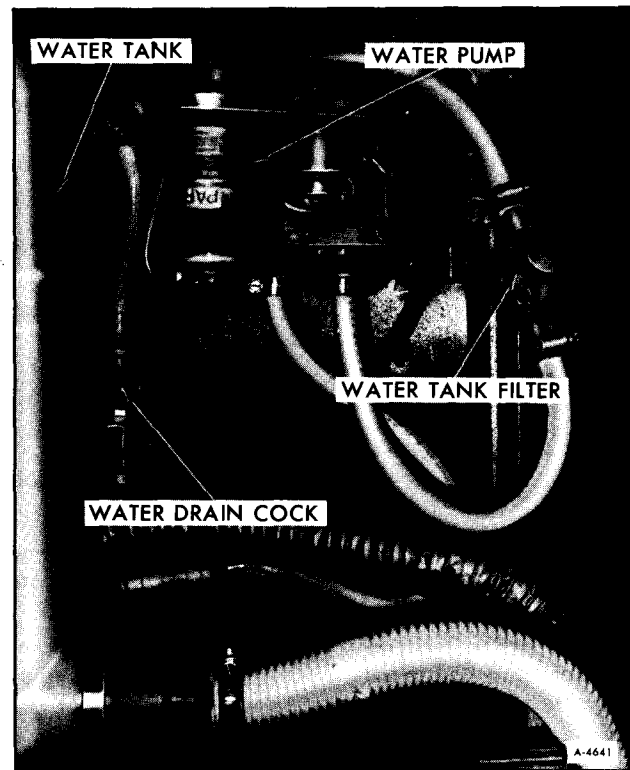

Figure 3—Water Tank Compartment (Typical)
4. Open the water drain valves at the water pump and the water tank (figures 3 and 4), and the two water line drain cocks next to the kitchen sink. To gain access to water line drain cocks for kitchen sink remove the second drawer located to the left of the kitchen sink compartment door.